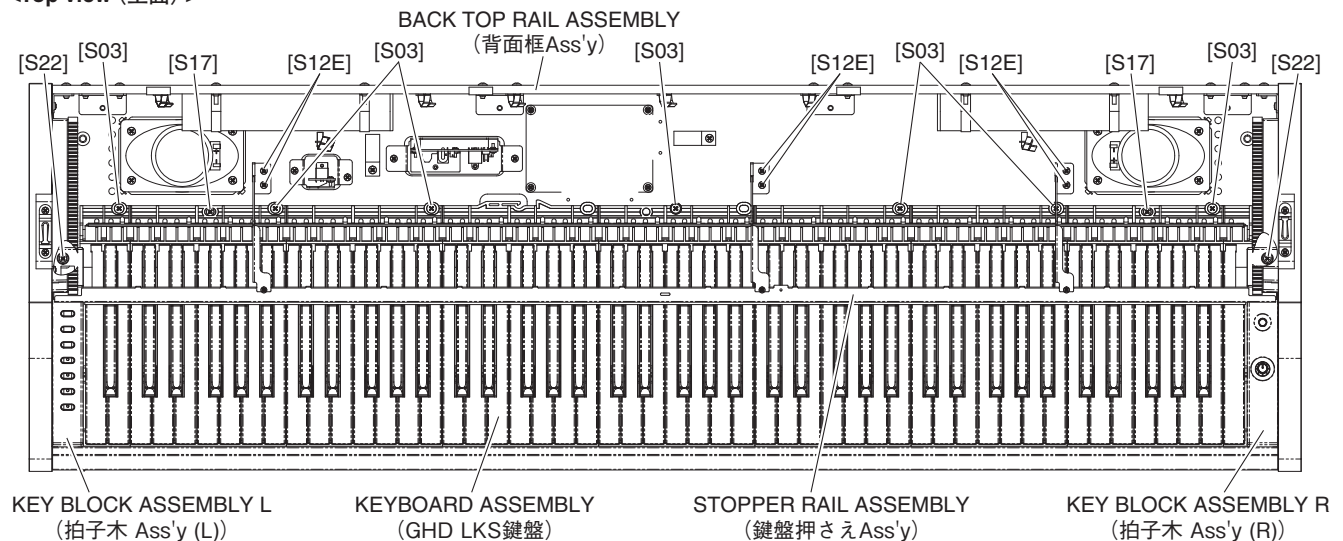

Fig. 6 (図6)
- 8-5 Remove the six (6) screws marked [S12E]. The stopper rail assembly can then be removed. (Fig. 6)
- 9-5 Remove the screw marked [S22]. (Fig. 6)
- 9-6 Slide the key block assembly L backward and lift it out. (Fig. 6)
- 8-5 [S12E] のネジ 6 本を外して、鍵盤押さえ Ass'y を外します。(図 6)
- 9-5 [S22] のネジ 1 本を外します。(図 6)
- 9-6 拍子木 Ass'y (L) を後方へスライドさせて外します。(図 6)
- 10-6 Remove the seven (7) screws marked [S03] and the two (2) screws marked [S17]. The keyboard assembly can then be removed. (Fig. 6)
- 10-6 [S03]のネジ7本と[S17]のネジ2本を外して、GHD LKS 鍵盤を外します。(図6)
- 11-5 拍子木 Ass'y (L) を外します。(9項参照)